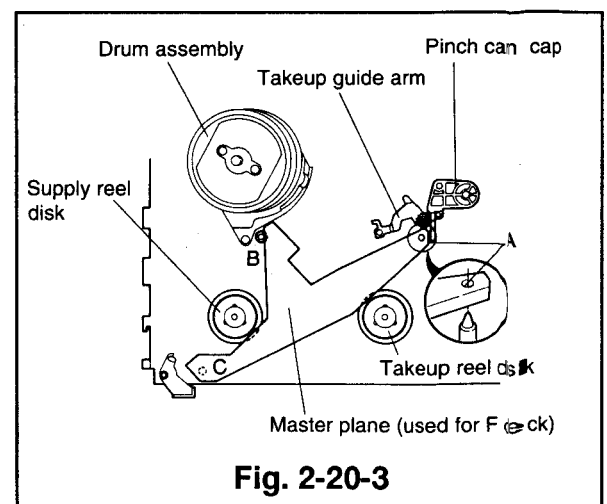

Fig. 2-20-3
- ③ Install the height adjusting jig [master plane](used for F deck: Part No.859C342020) in the specified position. (Insert the jig into hole A, shown in Fig. 2-20-3, so that the jig sets on part B and the end of part C. Take care that the jig does not touch the supply and takeup reel disks.)
- ① Install the supply reel disk on the shaft.
- ② Install the height adjusting jig [master plane](used for F deck: Part No.859C342020) in the specified position. (Insert the jig into the hole A shown in Fig. 2-20-3 so that the jig sets on part B and the end of part C. Take care that the jig does not touch the supply and takeup reel disks.)
- ① Place the height adjusting jig (for the F deck) in the reference position on the main plate (Refer to Fig. 2-20-3). Tighten the takeup guide arm fastening nut so that the lower flange of the takeup guide arm is level with point B of the height adjusting jig (for the E deck). (Refer to Fig. 2-24-6).